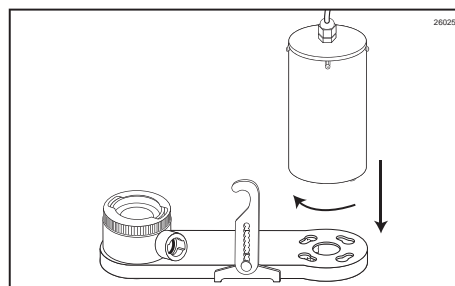

Figure 15
3. Insert the Drive Motor into the Drive Assembly Gear Box so that all four locking screws are seated properly and rotate the motor clockwise to secure. (See Figure 15.)